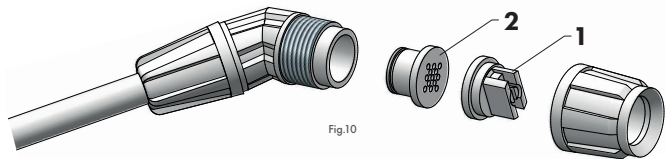

Fig.10
Point the lance tip (fig. 10) at the location to be sprayed.
The filter (fig. 12/pos. 1) located on the lance handle (fig. 12/pos. 2) and the foamer insert and nozzle (fig. 10/pos. 1 and 2) located at the lance tip (fig. 1/pos. 1) must be cleaned periodically and before any prolonged downtime.